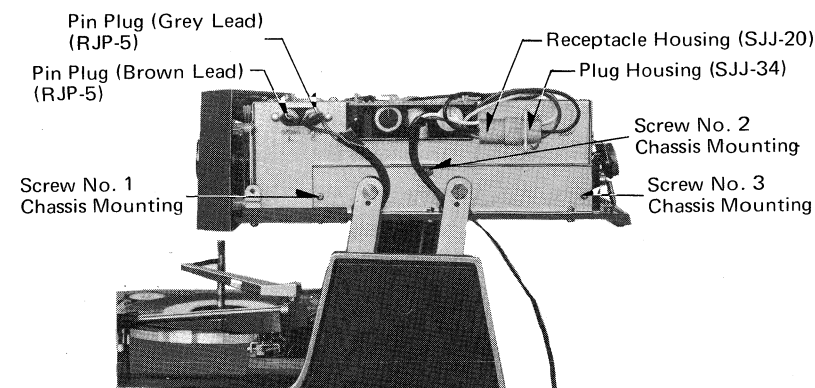

Fig. 8 RIGHT SIDE VIEW
3. Remove four (4) chassis mounting screws (left & right), Nos. 1-4, as shown in Figs. 8 & 9.
4. Unplug receptacle housing from plug housing and four pin plugs from pin jacks C, as shown in Figs. 8 & 9.